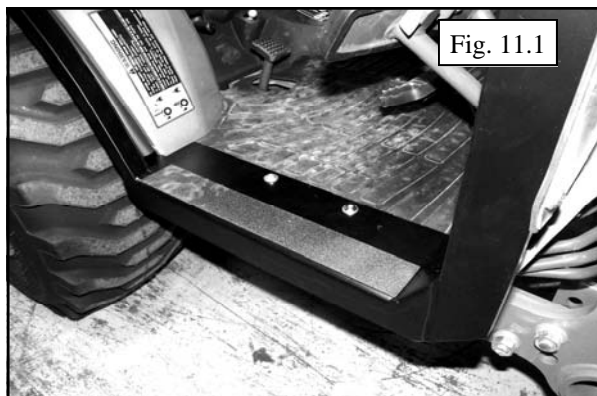

Fig. 11.1
11.1 See Figure 11.1 Use the holes in the side frame floorboards as a guide to drill holes through the tractor floor. **WARNING: Check underneath for obstructions before drilling. Be sure not to drill through hoses or hydraulic lines.** Attach frames to floor with 1" long button head bolts (2 per side). Tighten bolts.